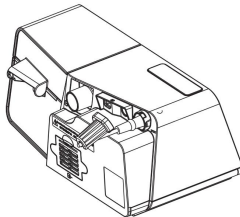

Fig. 12-5
- (1) Connect the device to power supply in accordance with 12.3 Connecting Power Supply.
- (2) Clip the narrow end of the power cord locker to the cord of the power adapter, as shown in Fig. 12-5.